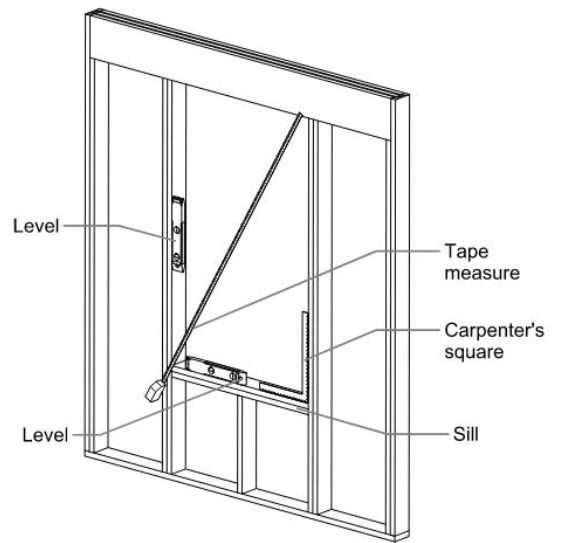

Figure 2
- 4) Next, find the opening's height. Again, you'll need three measurements. One on the far left, one on the center and one on the far right. Circle the smallest measurement. This is your height size. *(See Figure 2 on next page)*